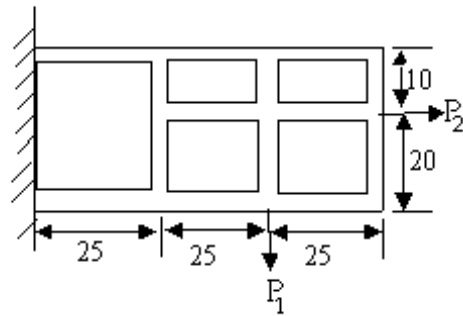

Figure 8b
- (b) Find the shear flow in each web of the beam shown in the figure 8b. Plot the distribution of axial load along each stiffening member when $P_1 = 25\text{kN}$, $P_2 = 15\text{kN}$. All dimensions are in cm. [6+10]